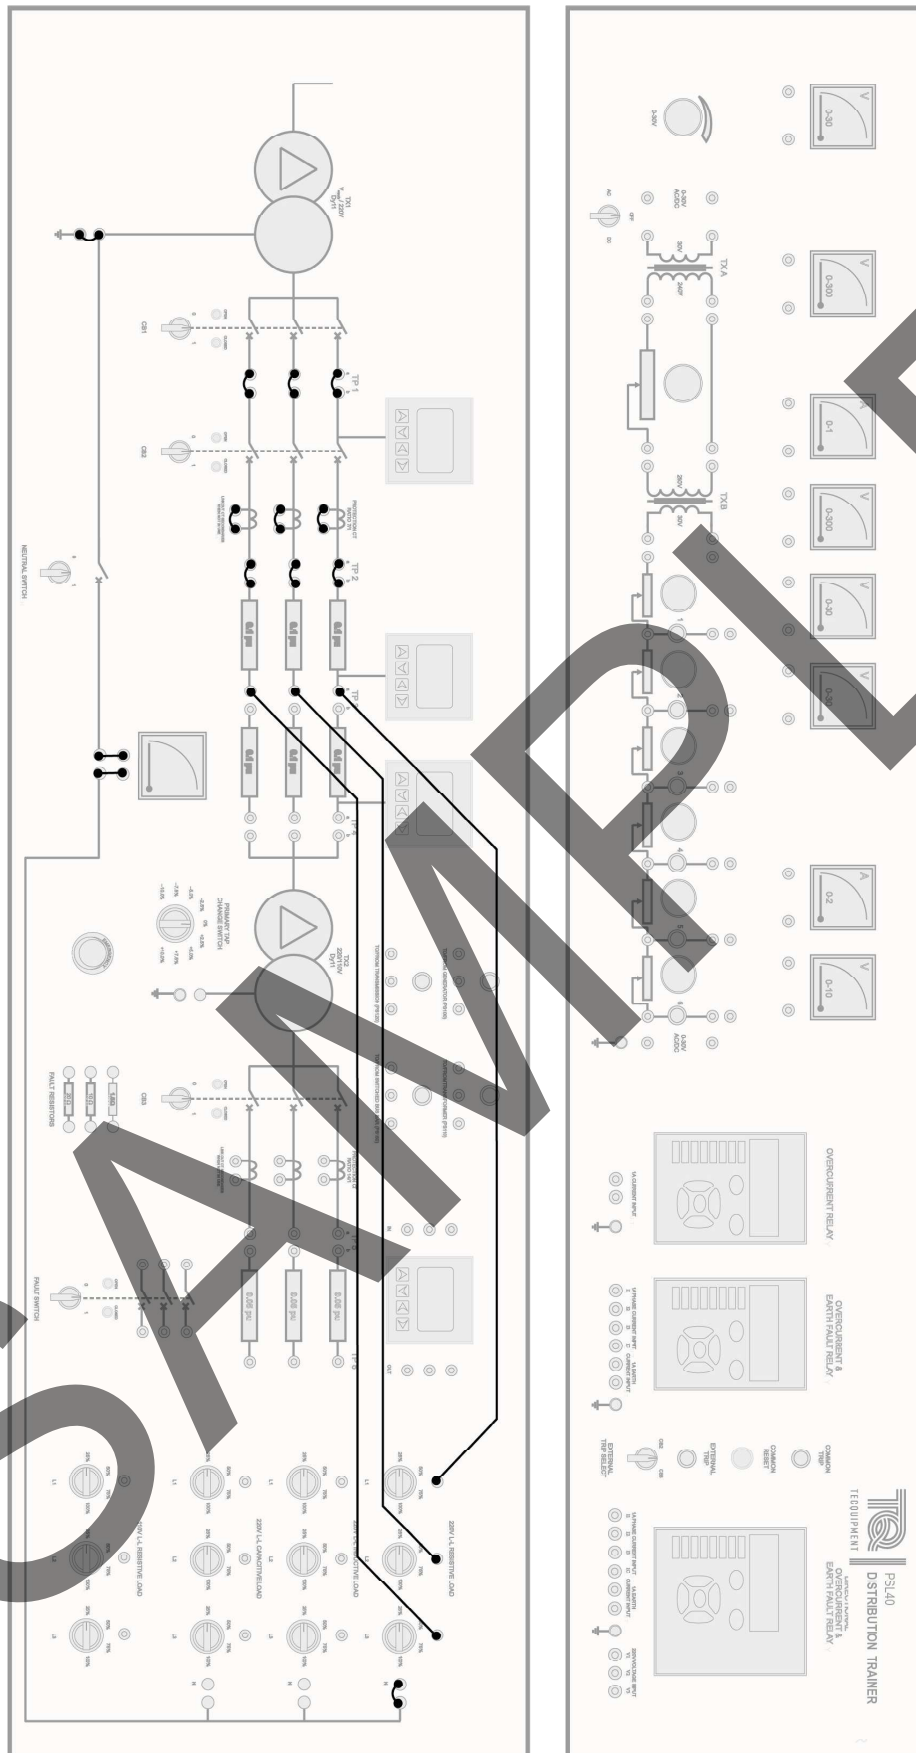

Figure 15 Connections for Experiment 1 - Procedure C
- 2) Connect a three-phase circuit as shown in Figure 15. Make sure that the CTs are short circuited and the neutral switch is closed.